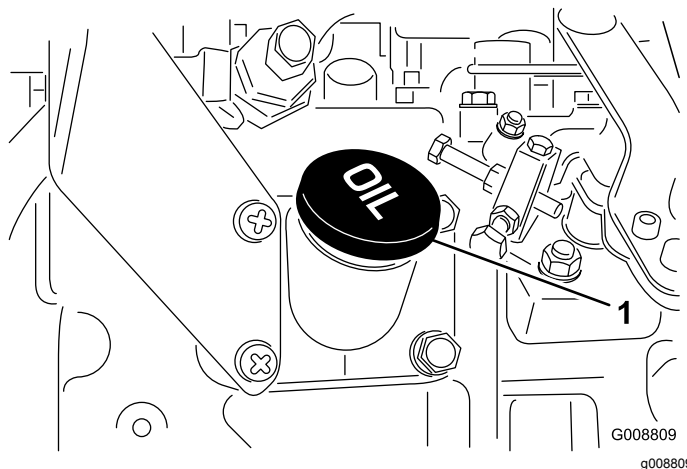

Figure 19
4. If the oil is below the safe range, remove the fill cap (Figure 19) and add oil until the level reaches the Full mark. **Do not overfill.**